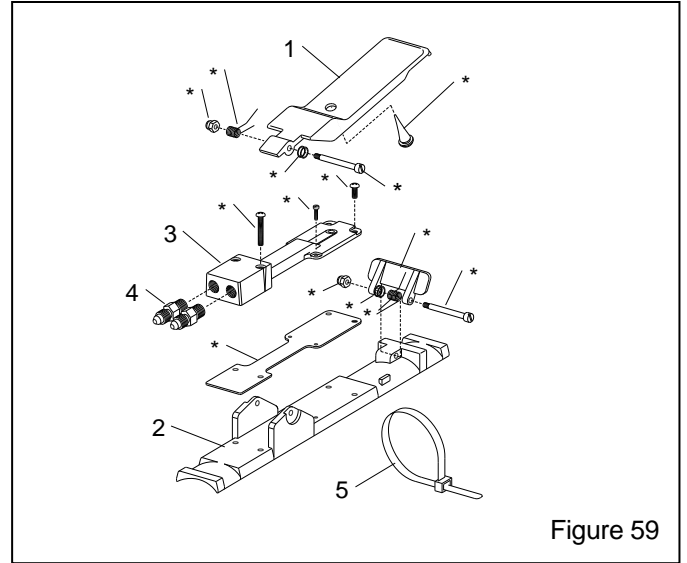

Figure 59
9.9 RLX Pneumatic Control Handle – Figure 59